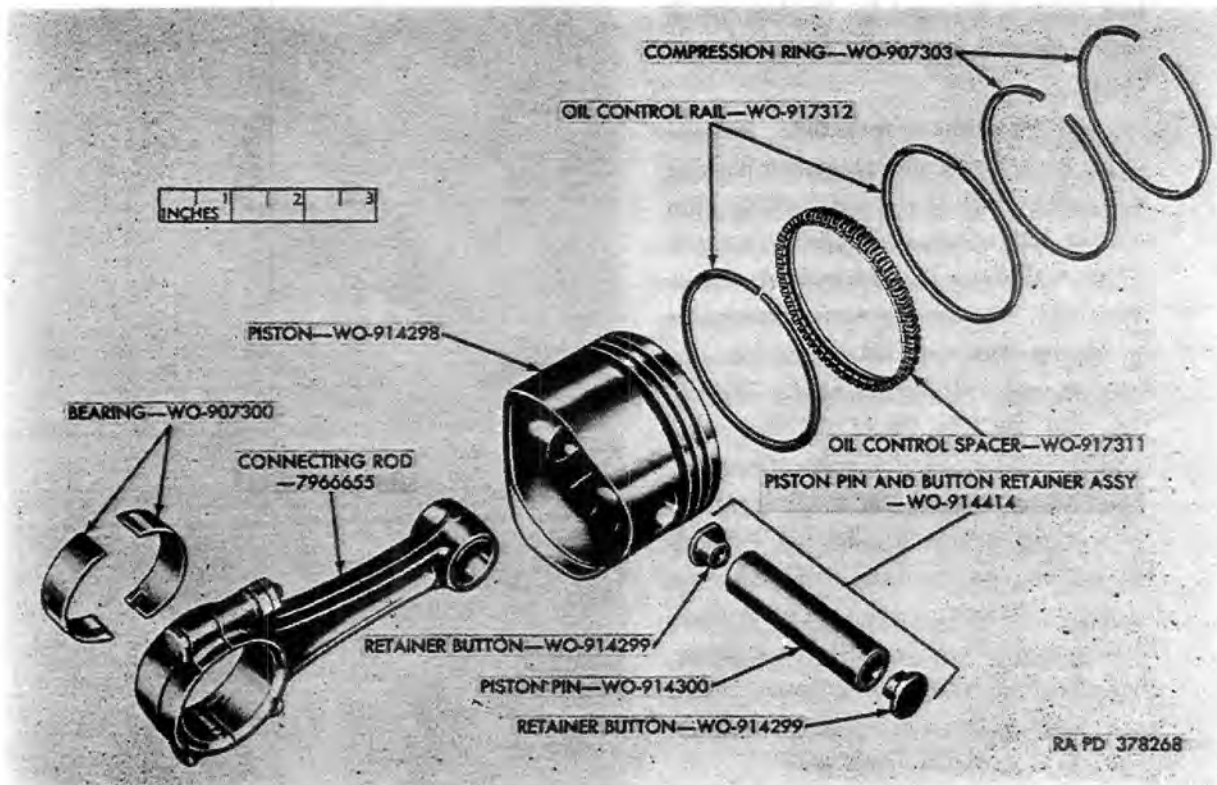

Figure 41. Connecting rod and piston—Exploded view.
(fig. 41)
a. *Connecting Rods* (figs. 41 and 42). Check connecting rods for twist and bend, to limits specified in repair and rebuild standards (par. 130). Replace a bent or twisted connecting rod. Check connecting rods for width at bearing end to repair and rebuild standards (par. 132). Fit rods to mating crankshaft for end play.
d. *Connecting Rod Bearings* (fig. 41). Examine connecting rod bearings for chipping or flaking. Check bearings to limits specified in repair and rebuild standards (par. 132). Replace worn or damaged bearings.
e. *Pistons* (fig. 41). Carefully examine entire piston for cracks and flaws, giving particular attention to ring lands in which rings were stuck. Small cracks will be evident, under strong light, as irregular dark streaks. Rejection of a piston for scores and scratches is a matter of judgment. Metal raised by minor scores or scratches may be removed by a fine mill file. Check pistons to limits specified in repair and rebuild standards (par. 133). Replace defective pistons. When a new piston is used, stamp cylinder identification on head corresponding to piston being replaced.
g. Piston Pins (fig. 41). Inspect piston pins and retainer buttons for nicks, scratches, and abrasions. Replace damaged or loose buttons. Check pins and buttons to limits specified in repair and rebuild standards (par. 133).
h. Piston Rings (fig. 41). Use new piston rings for replacement. Check ring side clearance in grooves and end gap to limits specified in repair and rebuild standards (par. 133). Gap can be checked with
59. Assembly of Connecting Rods and Pistons (fig. 41)